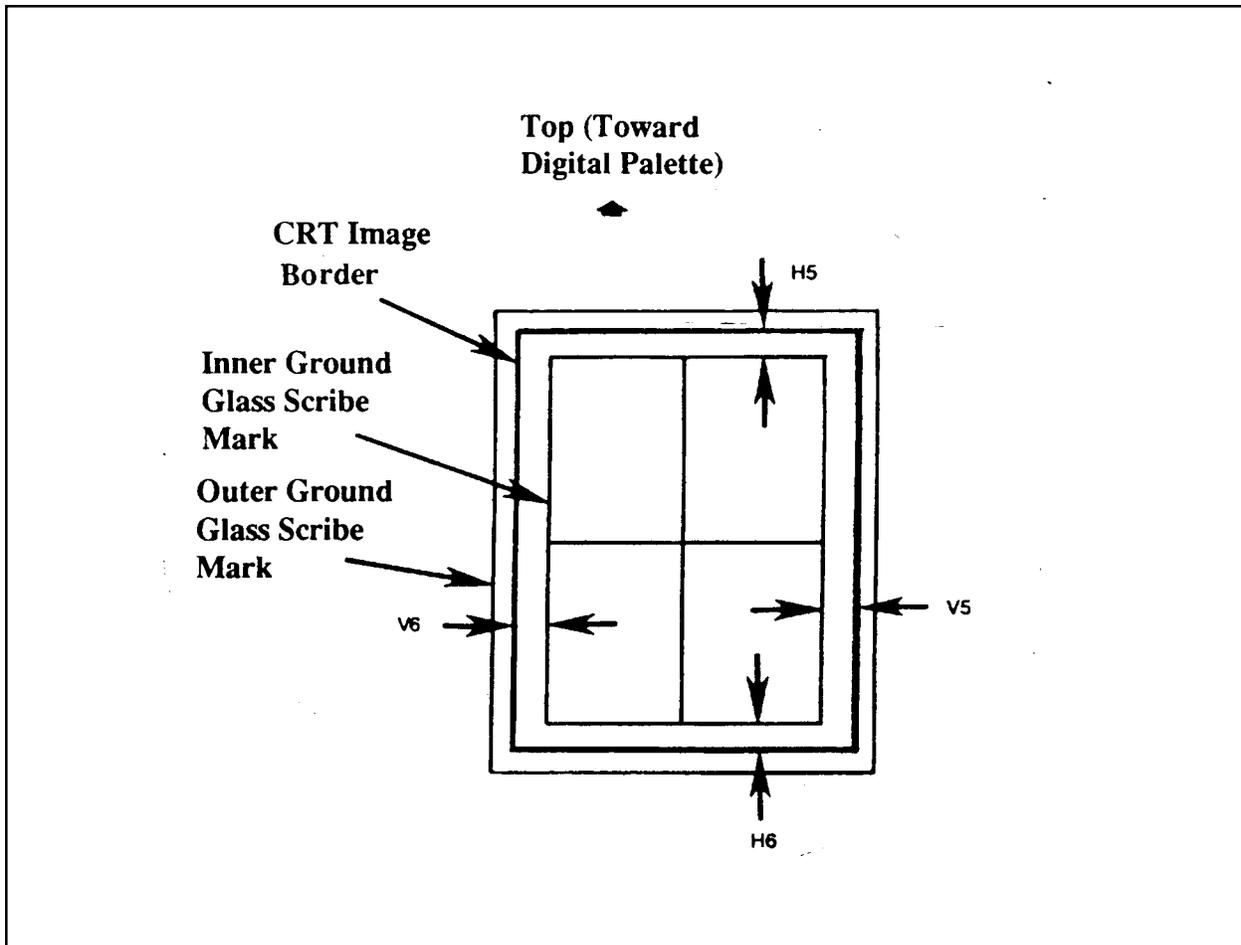

Figure 5-4. Offset Measurement and Calculation
8. The displayed image should coincide with the scribed lines in the center of the gauge. The outside image lines should fall within the two scribed lines along the perimeter of the gauge. The image must meet the offset specifications for both vertical and horizontal axis and tilt (Figure 5-4).
4. When the pattern meets the conditions shown in Figure 5-4, tighten the mounting screws and reassemble the Digital Palette cover.
5. After tightening the mounting screws, recheck the specifications against the template (refer to Figure 5-4).